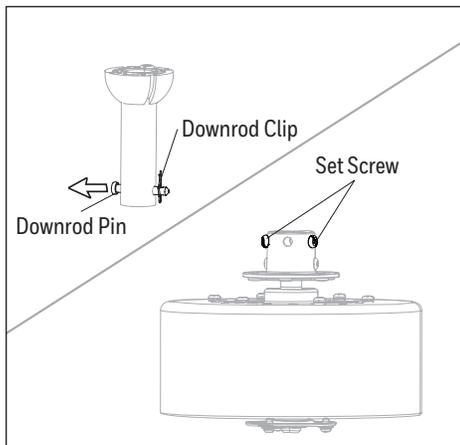

Figure 2.4
4. Remove the downrod clip and downrod pin from the downrod. Then partially loosen the set screws in the yoke at the top of the motor assembly (Figure 2.4).